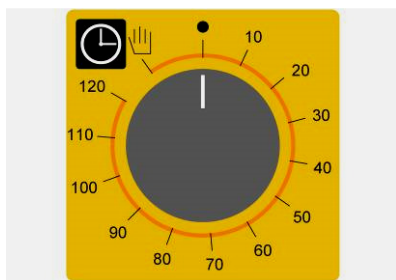

Fig. 3
**Programming cooking time** - To run the oven, turn the programmer knob (Fig. 3) in line with symbol 🕒 (continuous operation) or in line with the selected cooking time (up to 120 minutes). In the second case, end of cooking is signalled by the oven switching OFF automatically.